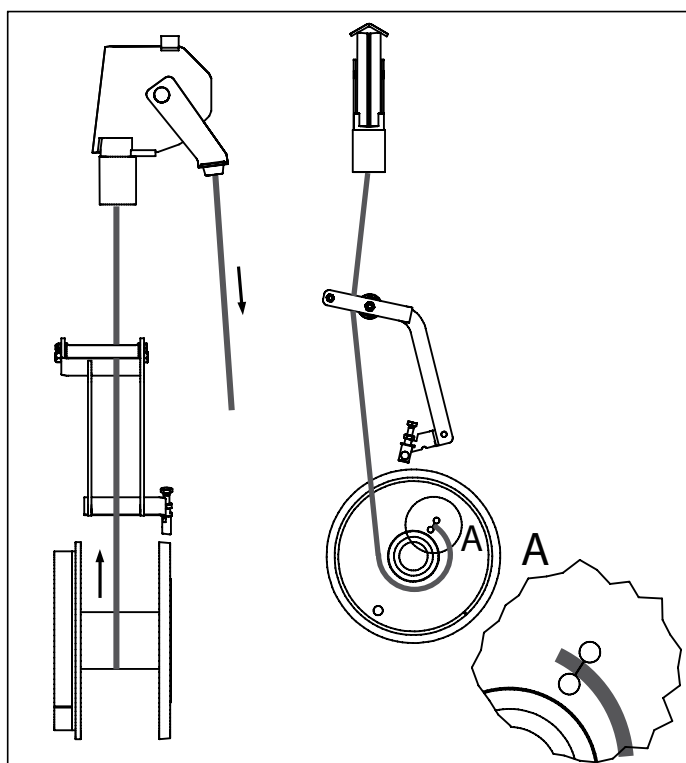

Fig. 3. Fastening the cable
5. Insert the cable end under the wedge of the cable lock device. See fig. 3.